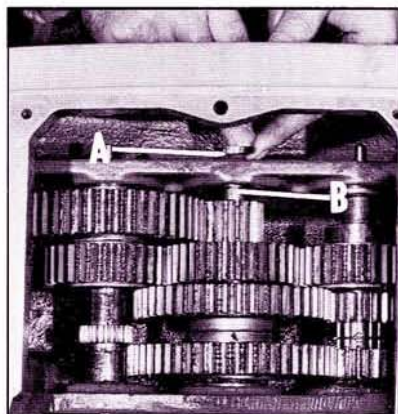

Fig. 32
13. Assemble top spacer (A) Fig. 32, to shaft (B) as shown.